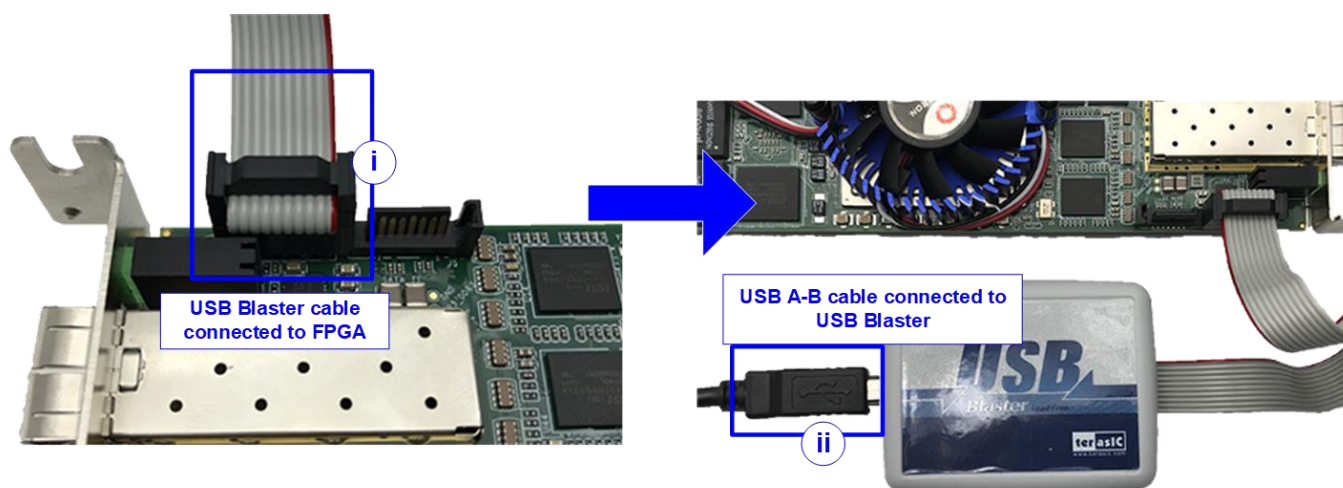

Figure 2-3 USB cable connection
- ii. Connect USB A-B cable to USB Blaster, as shown in Figure 2-3.